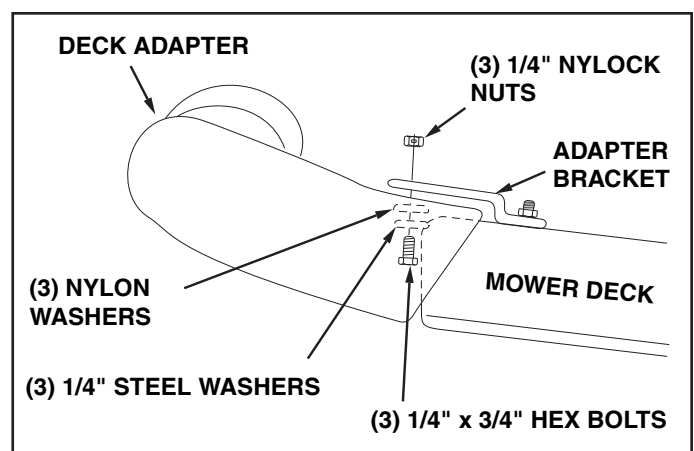

FIGURE 28
- With deck adapter positioned correctly over the discharge opening, use the adapter bracket as a template and drill three 9/32" diameter holes in the top of the deck adapter. See figure 28.
- Bolt deck adapter to bracket using three 1/4" x 3/4" bolts, nylon washers, 1/4" flat washers and 1/4" lock nuts. Nylon washers should be against the inside of the deck adapter. See figure 28.